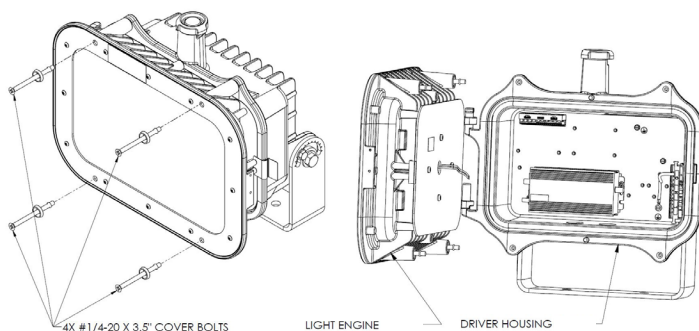

Figure 1
Swing open front light engine (LED Assembly) by loosening four (4) #1/4-20 X 3.5" stainless steel cover bolts using a Philip drive screwdriver (see Figure 1).
1. The light engine should be opened by pulling retention clip/latch in front to free it from driver housing and swing open about the hinges (See Figure 1).